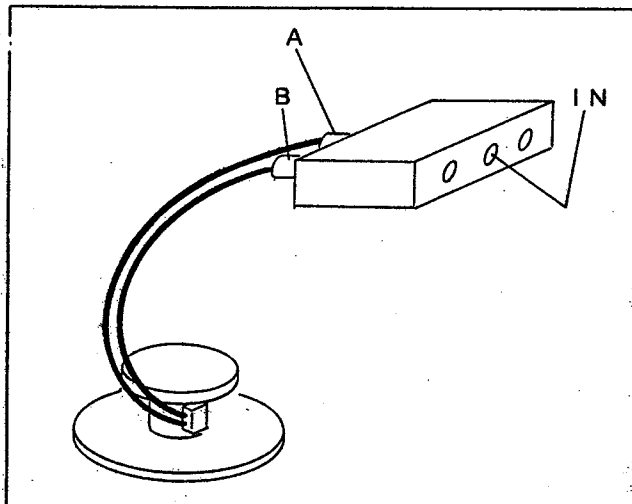

Fig. 6
7. CONNECTING AIR TUBE (Fig.6)